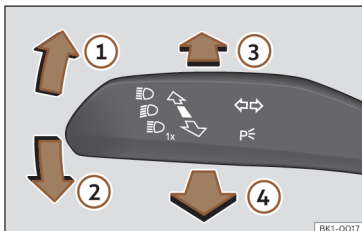

Fig. 82 Turn signal and main beam lever (depending on the version).
- From the base position, press the turn signal and main beam headlights lever forwards >>> **Fig. 82** .
- **EITHER:** if light assist is on, pull the turn signal light and main beam headlights lever backwards >>> **Fig. 82** .